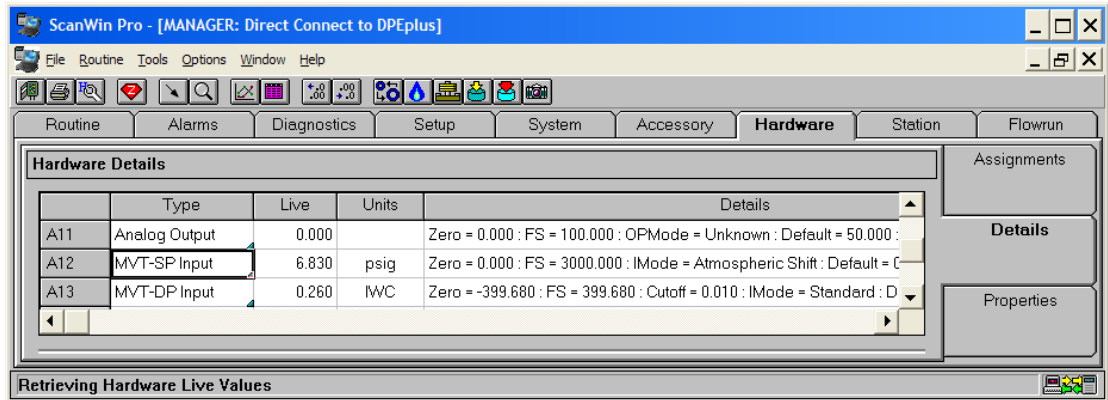

Figure 4.2—Live input readings in ScanWin (Hardware – Details page)
4. Verify the accuracy of the live input readings. The DPE+ live values can be found in the Hardware Details page of Scanwin (Figure 4.2). The input/output resources are the same as those established for the original DPE sensor. Refer to Section 5 of this manual for more information on the DPE+ hardware.